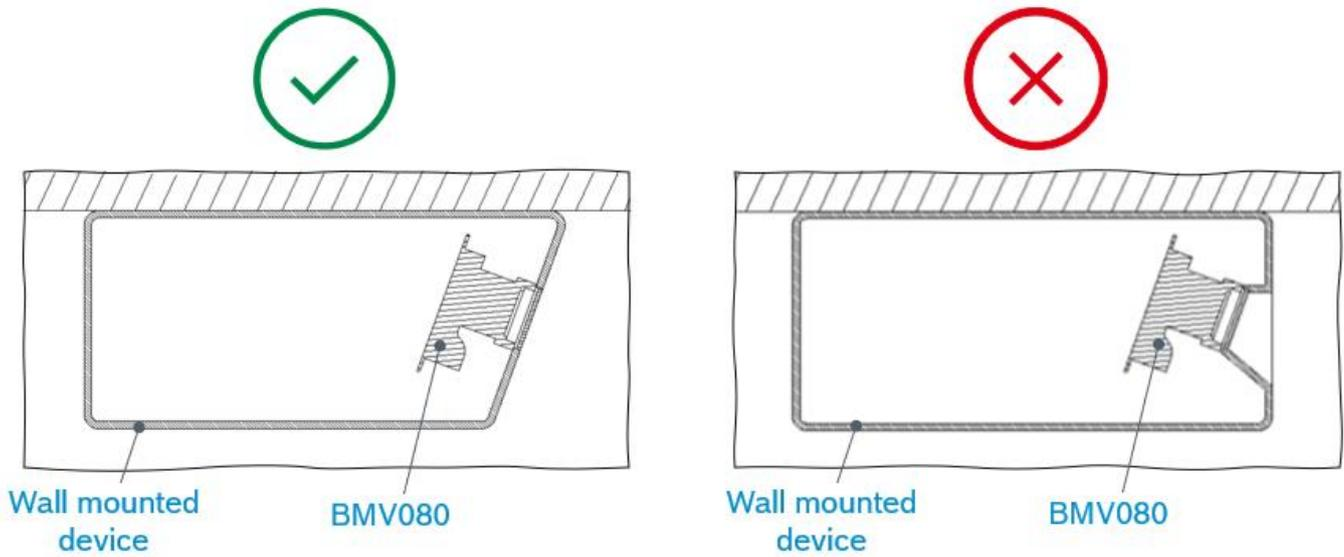

Figure 14: Schematic of BMV080 (facing left or right) when mounted closer to wall on host to ensure laminar airflow
- It is recommended to ensure laminar air flow conditions to get best BMV080 sensing performance by following the guideline as per Figure 14